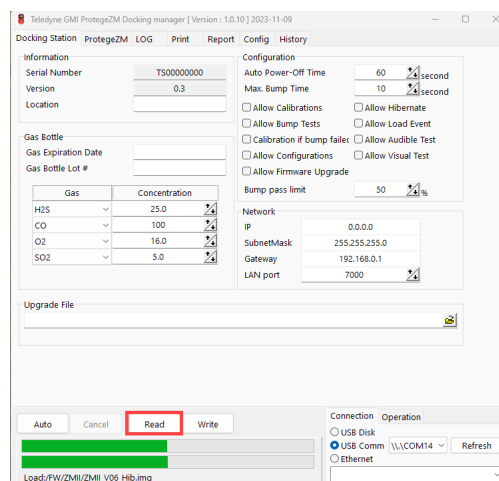

Figure 3-11: Test Station - Successful Connection
2. Click the 'READ' button, as shown in Figure 3-11. A successful connection will be indicated by the status bar at the bottom of the screen turning green and displaying a 'Complete OK' message.